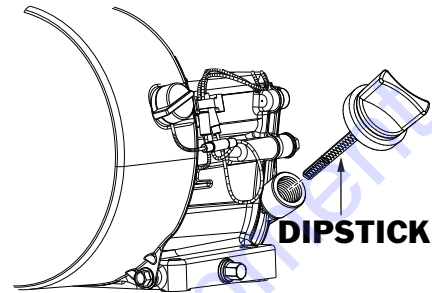

Figure 9. Engine Oil Dipstick (Removal)
2. Remove the filler dipstick from the engine oil filler hole (Figure 9) and wipe it clean.